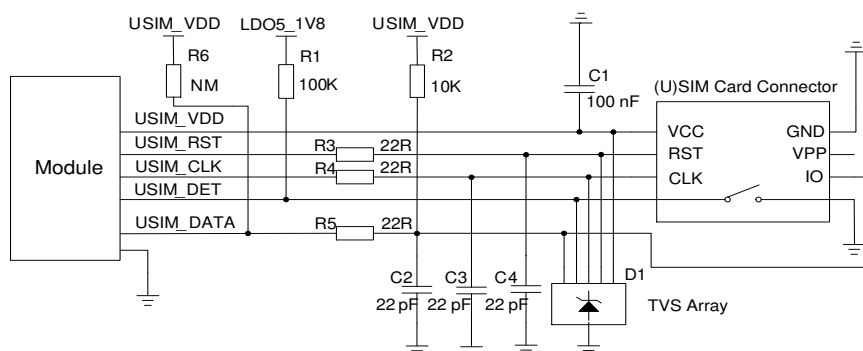
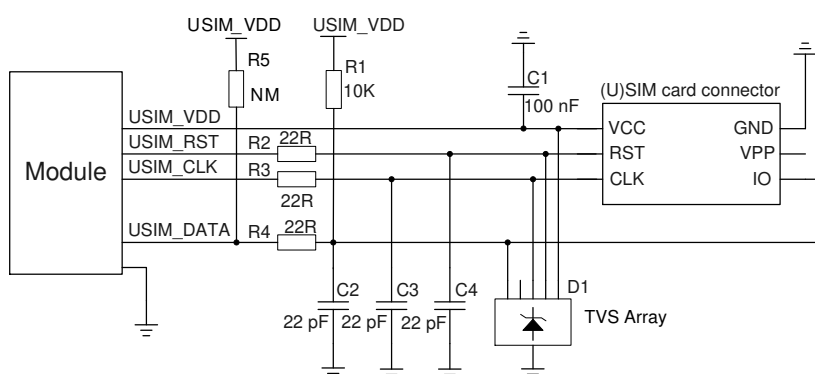

Figure 16: Reference Circuit for (U)SIM Interface with an 8-pin (U)SIM Card Connector
Figure 17: Reference Circuit for (U)SIM Interface with a 6-pin (U)SIM Card Connector
- Place the (U)SIM card connector as close to the module as possible. Keep the trace length as short as possible, at most 200 mm.
- Keep (U)SIM card signals away from RF and VBAT traces.
- Reserve a filter capacitor for USIM_VDD, and its maximum capacitance should not exceed 1 μ F. Additionally, place the capacitor near the (U)SIM card connector.
- In order to ensure good ESD protection, it is recommended to add a TVS array with parasitic capacitance not exceeding 50 pF. Add 22 Ω resistors in series between the module and (U)SIM card to suppress EMI spurious transmission and enhance ESD protection. Please note that the (U)SIM peripheral circuit should be close to the (U)SIM card connector.
- Add 22 pF capacitors in parallel on USIM_DATA, USIM_CLK and USIM_RST signal lines to filter RF interference, and place them as close to the (U)SIM card connector as possible.
- Place the reserved pull-up resistors R6 and R5 in **Figure 16**: Reference Circuit for (U)SIM Interface with an 8-pin (U)SIM Card Connector and **Figure 17**: Reference Circuit for (U)SIM Interface with a 6-pin (U)SIM Card Connector close to the module.